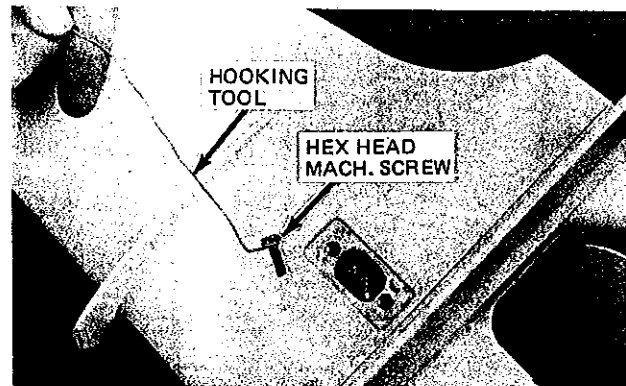

Figure 3. Hold screw with hooking tool.
- D. Remove screw and washer adjacent to exhaust outlet (Figure 3).